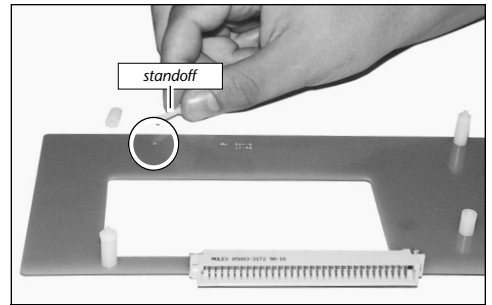

Figure 10: Remove upper left standoff
- Orient the video adapter board in front of you as shown in Figure 10. Using a small Phillips screwdriver, remove the upper left stand-off from the adapter board (**Figure 10**).